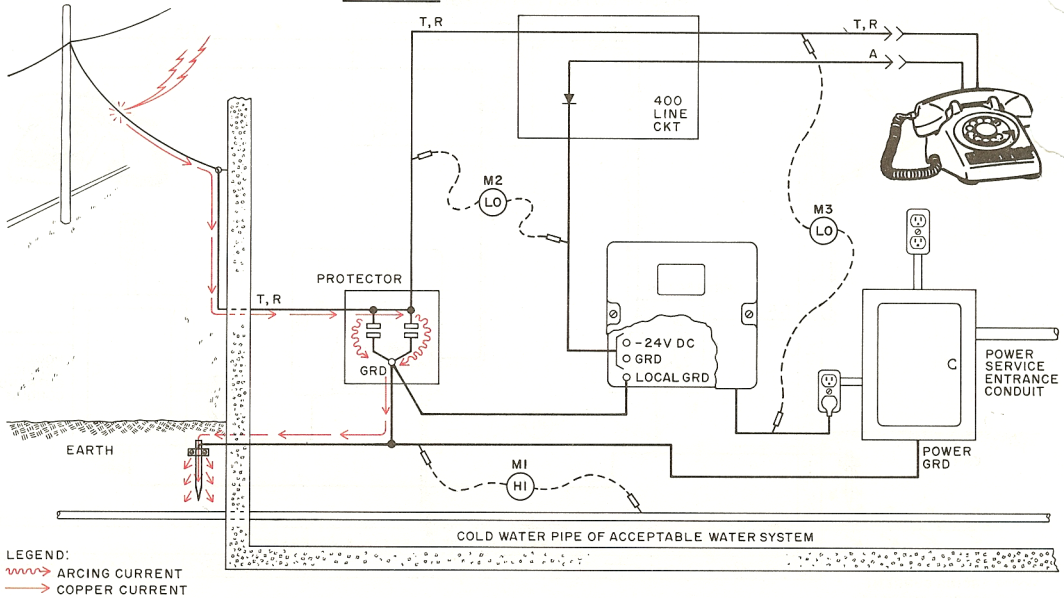

Fig. 16—All Grounds Bonded to Ground Rod
**6.08** A ground rod is used to ground all system points in the installation shown in Fig. 16. This diagram illustrates how a ground, which is not the best available, can offer system protection as long as all grounds are connected to this point. Note, however, that high-voltage levels can develop between this system and the local water system (meter M1) or with respect to local building steel. Arcing could occur from some part of this installation to a nearby water pipe.